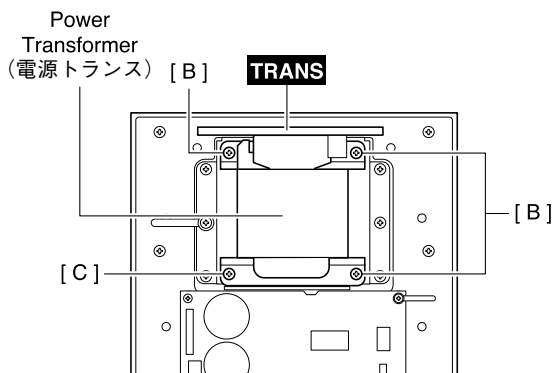

Fig. 4(図4)
4-2 Remove the three (3) screws marked [B] and screw marked [C]. The power transformer with TRANS circuit board can then be removed. (Fig. 4)
4-2 [B]のネジ3本、[C]のネジを外し、電源トランスとTRANSシートを外します。(図4)
5-2 Remove the three (3) screws marked [B] and screw marked [C]. The power transformer can then be removed. (Fig. 4)
5-2 [B]のネジ3本と[C]のネジを外し、電源トランスを外します。(図4)